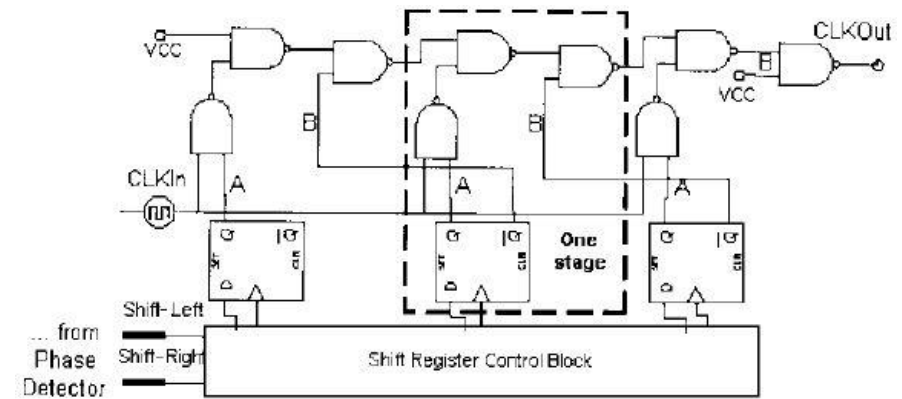

Figure 12: Shift register and delay insertion [6]
- ❑ The delay elements in Figure 12 are 2 NAND gates.